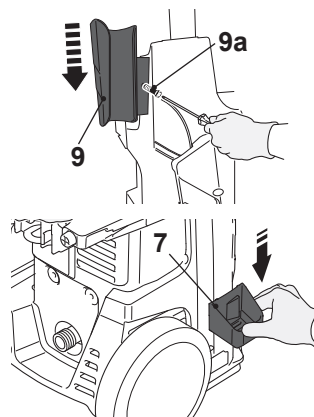

Fig. 2
- > Slide the upper spray gun hold (9) to the product and secure it with the screw (9a) (Fig. 2).
- > Attach the lower spray gun holder (7) to the product. Ensure it engaged properly.